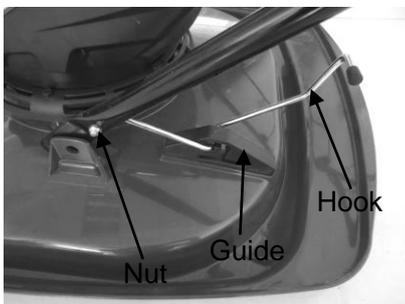

Fig. 2A
1. Feed the hook attached to the lower handle halfway through the centre slot of the guide, fix the hook into the lower handle with a nut using a suitable spanner. (Fig. 2A)